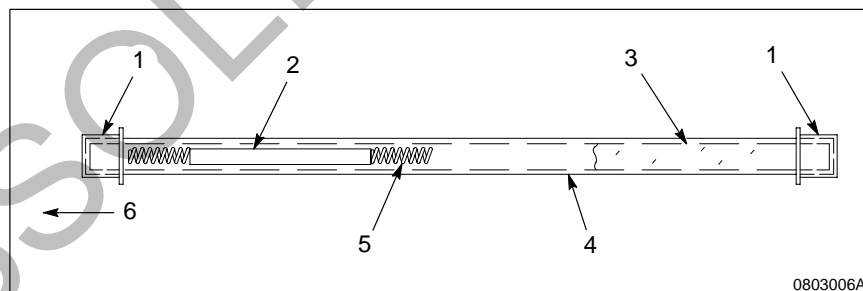

Fig. 6 Resistor service kit
See Figure 6. Use this procedure to install a new electrostatic cable and service resistor kit, or to replace the resistor kit and continue to use the existing electrostatic cable.
3. See Figure 6. Install the resistor (2), spring-end (5) first, into the insulating tube (4).
4. Install the greased insulating tube (4), resistor-end (6) first, into the high-voltage bore. (The end of the insulating tube containing the dielectric grease (3) should go into the bore last.)